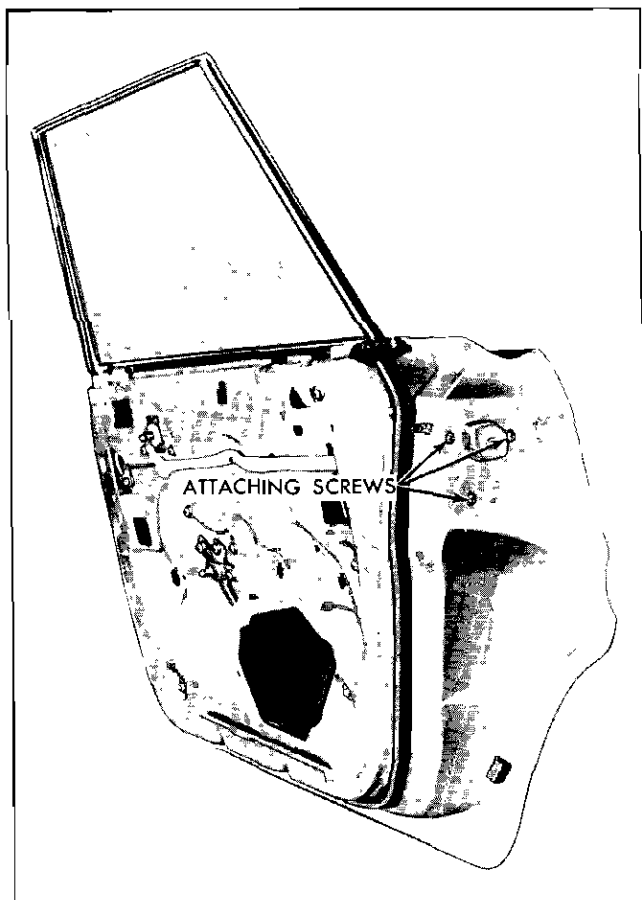

Fig. 2-36 Door Lock Attaching Screws
4. At lock pillar facing, remove door lock attaching screws and remove lock assembly through access hole (Fig. 2-36).